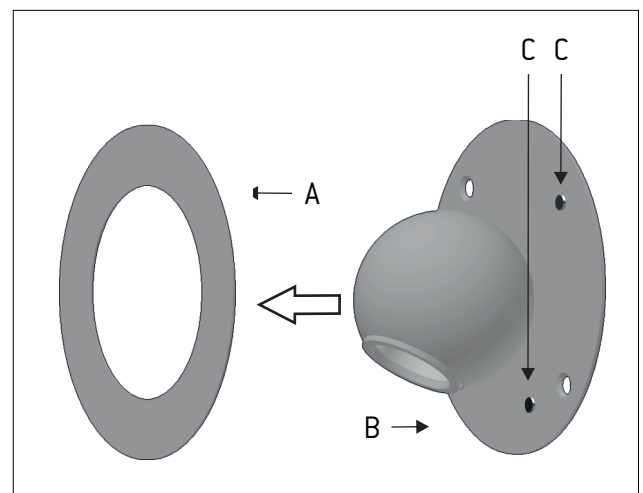

Figure 1
1 - Pull the decorative disc (A) to separate it from the mounting bracket (B). It is held by three magnets (C). There is no danger of breakage but be careful not to lose them. Figure 1.